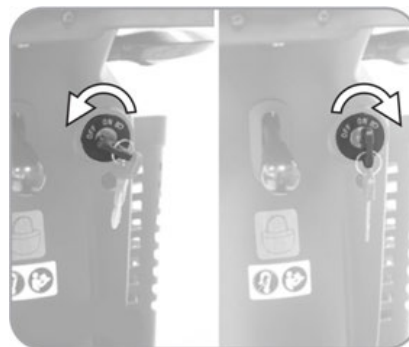

Figure 6
- » Turn the key to the right - Turn scooter on. (Figure 6)